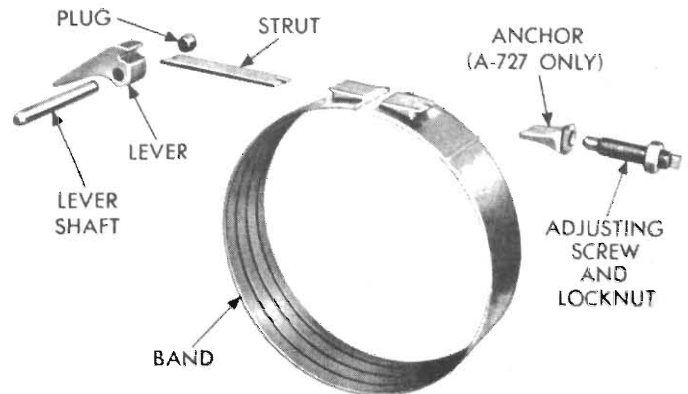

Fig. 100 - Kickdown band and linkage
(4) Align front clutch plate inner splines, and place assembly in position on the rear clutch. Make sure front clutch plate splines are fully engaged on rear clutch splines.
(5) Align rear clutch plate inner splines, grasp input shaft and lower the two clutch assemblies into the transmission case.
(6) Carefully work clutch assemblies in a circular motion to engage rear clutch splines over splines of front annulus gear. Make sure front clutch drive lugs are fully engaged in slots in the driving shell.
*Figure 100* shows a disassembled view of the kickdown band assembly.
(1) Slide band over front clutch assembly.
(2) Install band strut, screw in adjuster just enough to hold strut and anchor in place.